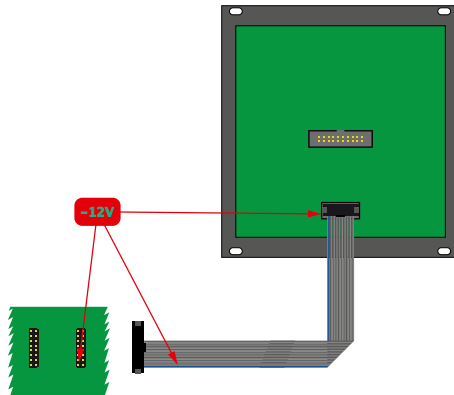

Figure 1: Connecting twinVCFilter to the system bus
2. Connect the supplied ribbon-cable with its 10-pole connector to the corresponding multi-pin-connector on the module's rear. (see "*Figure 1: Connecting twinVCFilter to the system bus*" on page 4)
3. Connect the ribbon-cable's 16-pole connector to an empty plug-socket of your frame's system bus. Make sure the color-coded side of the cable points towards -12 volts! (see "*Figure 1: Connecting twinVCFilter to the system bus*" on page 4)